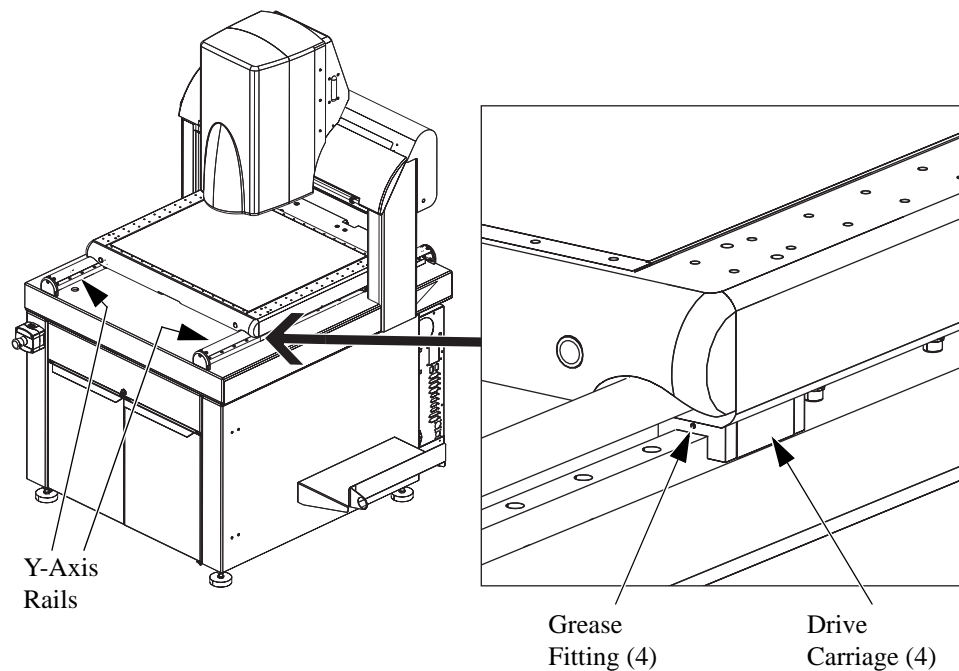

Figure 6-6 Cleaning and Lubricating the Y-Axis Rails
3. Use clean, lint-free toweling to wipe the exposed Y-axis rails (see Figure 6-6). Make sure the rails are clean before continuing.
5. Use the joystick to drive the Y-axis transport to the rear limit of its travel, which provides access to all four Y-axis grease fittings (see Figure 6-6).
7. Use a grease gun and the four Y-axis grease fittings (see Figure 6-6) to replenish the Y-axis grease supply. **Use 2.0 cm³ (0.12 in³) of NSK PS2 lubricant.**